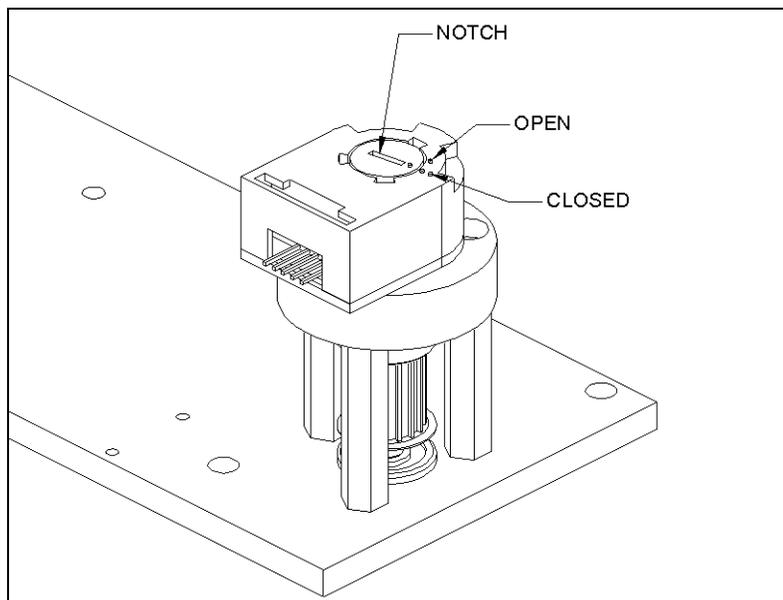

Figure 7-55 X-Encoder Position
- 3 Rotate encoder cover from the open to closed position by inserting a small flat blade screwdriver into the notch and rotating. The encoder cover is shown in the closed position in Figure 7-55.